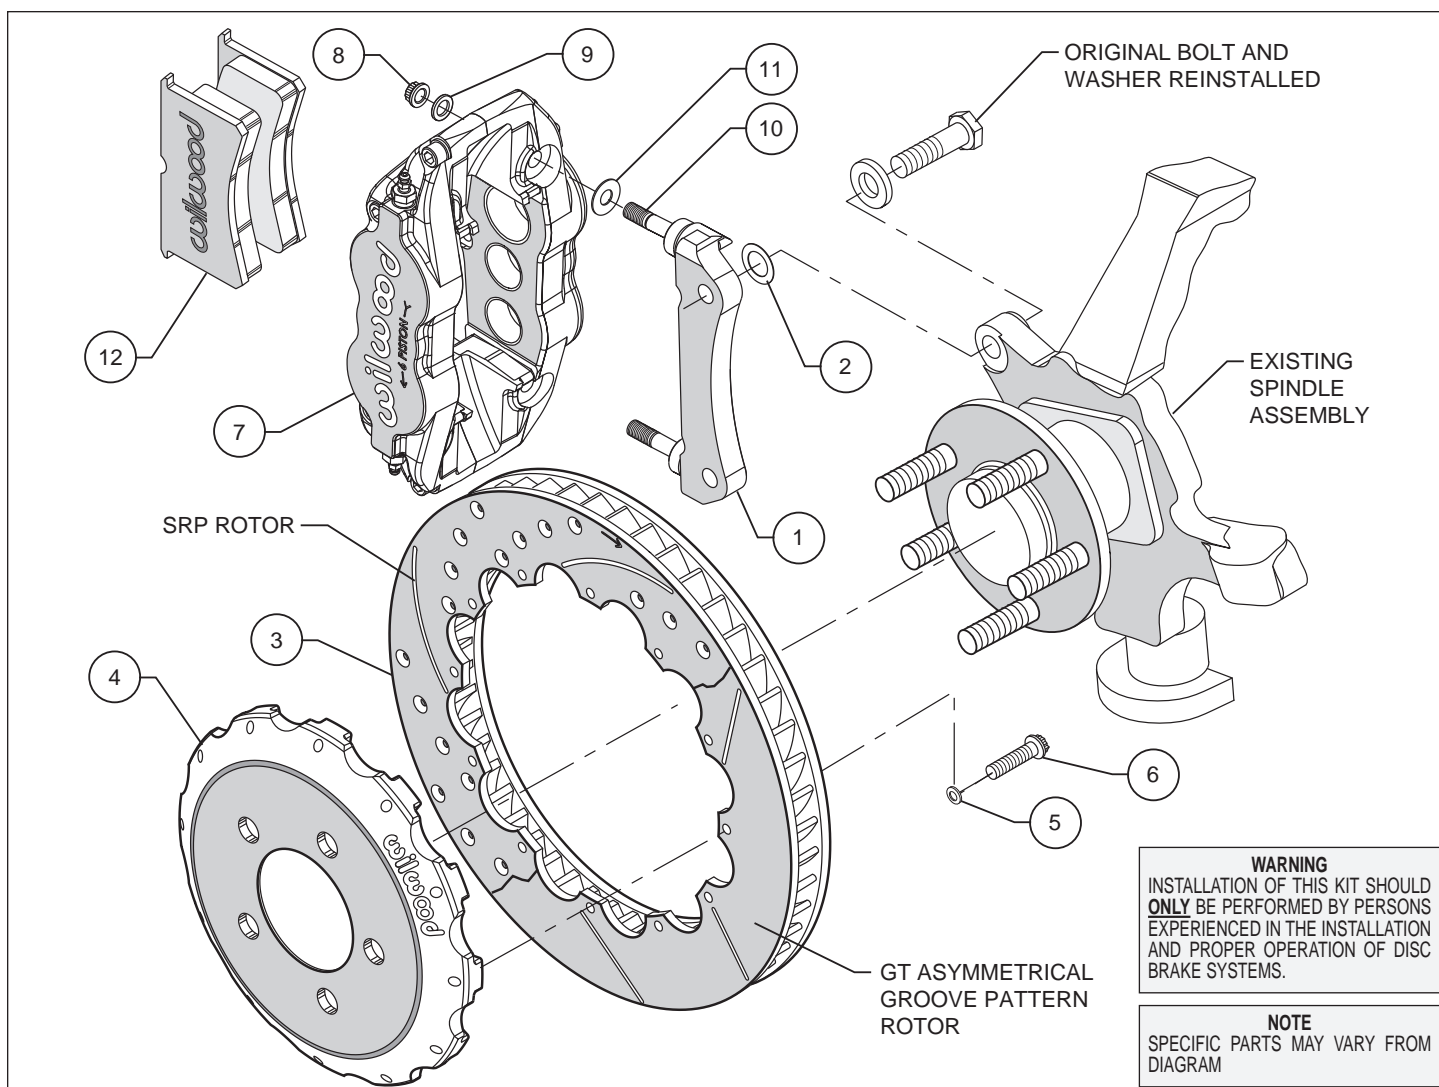
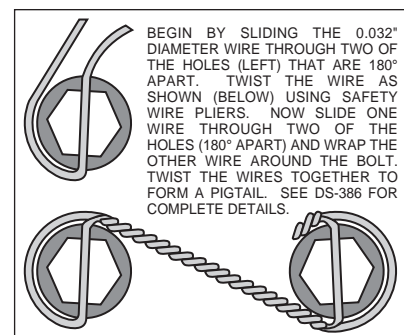

Figure 1. Typical Installation Configuration
Figure 3. Safety Wire Diagram
- Assemble the rotor (3) to the hat (4) with the bolts (6) and washers (5) as indicated in the configuration pictured in Figure 1. Using an alternating sequence, apply red *Loctite*® 271 to the threads and torque bolts to 155 in-lb. For an added measure of security, the bolts may be safety wired using standard 0.032 inch diameter stainless steel safety wire as shown in Figure 3. Please refer to Wilwood's data sheet DS-386 (available at [www.wilwood.com/Pdf/DataSheets/ds386.pdf](http://www.wilwood.com/Pdf/DataSheets/ds386.pdf)) for complete safety wire installation instructions.